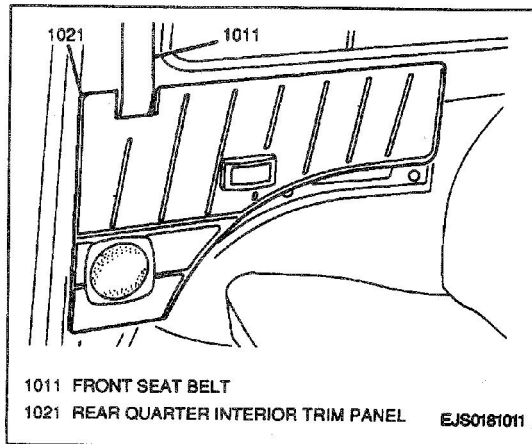

Figure 5—Rear Quarter Interior Trim Panel
- Pull rear quarter interior trim panel from vehicle, disengaging plastic clips (Figure 5).
2. Rear quarter interior trim panel to vehicle; press into place, engaging plastic clips (Figure 5).